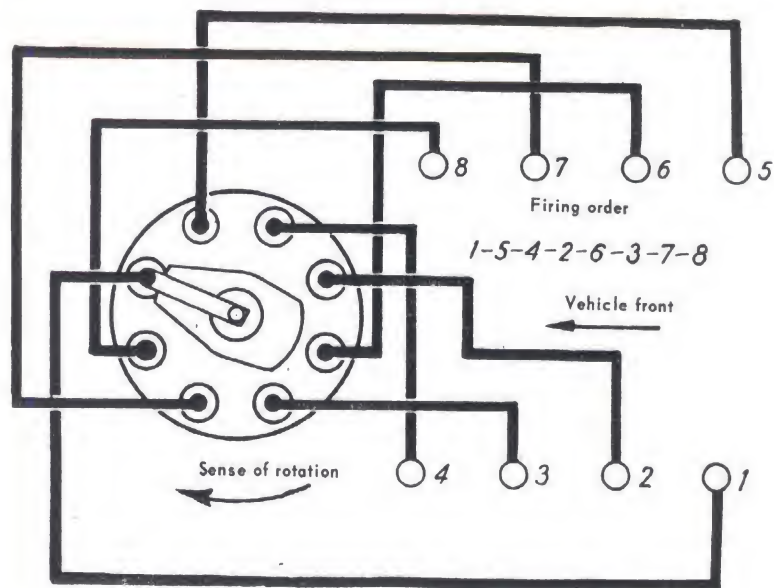

FIG. 88. CONNECTION OF WIRES RUNNING FROM SPARK PLUGS TO DISTRIBUTOR
6. Connect the high- and low-tension wires from the ignition coil as well as the high-tension wires from the spark plug to the distributor in the following order: 1-5-4-2-6-3-7-8 as shown in Fig. 88.